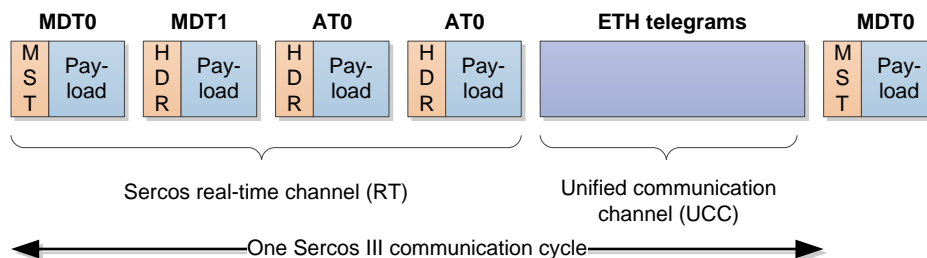

Figure 2. Sercos III Communication Cycle
Sercos III combines a deterministic real-time-Ethernet channel (RT) and a best-effort-Ethernet channel (UCC) on the same Ethernet cable using time multiplexing (see Figure 2). During the time slot of the Sercos III real-time channel, only the master is allowed to start the transmission of a Sercos III Ethernet frame. The frame is received by all slaves and is being processed on-the-fly, meaning each slave that receives the Sercos III Ethernet frame processes the bytes from the byte-stream without changing the overall frame length. At the end of the frame, the slave recalculates and replaces the frame check sequence (FCS) in case the content has been modified.